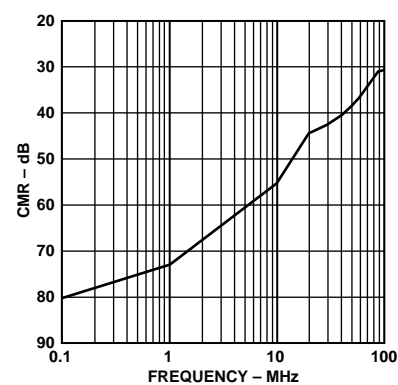

Figure 16. CMR vs. Input Frequency (Input Span = 2 V, $V_{CM} = 2.5$ V)
Differential operation requires that VINA and VINB be simultaneously driven with two equal signals that are in and out of phase versions of the input signal. Differential operation of the AD9243 offers the following benefits: (1) Signal swings are smaller and therefore linearity requirements placed on the input signal source may be easier to achieve, (2) Signal swings are smaller and therefore may allow the use of op amps which may otherwise have been constrained by headroom limitations, (3) Differential operation minimizes even-order harmonic products, and (4) Differential operation offers noise immunity based on the device’s common-mode rejection as shown in Figure 16.